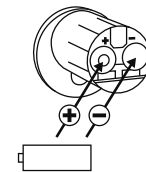

Fig. 119
- 3 Insert two new batteries. Make sure that the polarity is correct according to the drawing (Fig. 119).